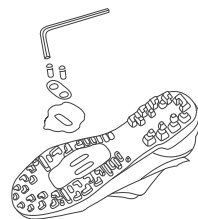

Figure 2. Screw installation
3. With the cleat adjustment plate installed with the tapered holes facing up to accept the cleat screws, loosely install the cleat mounting screws (Figure 2).